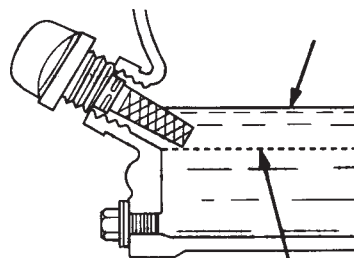

Figure 6. Engine Oil Dipstick (Oil Level)
4. If the oil level is low (Figure 6), fill to the edge of the oil filler hole with the recommended oil type (Table 5). Maximum oil capacity is 1.16 quarts (1.10 liters)